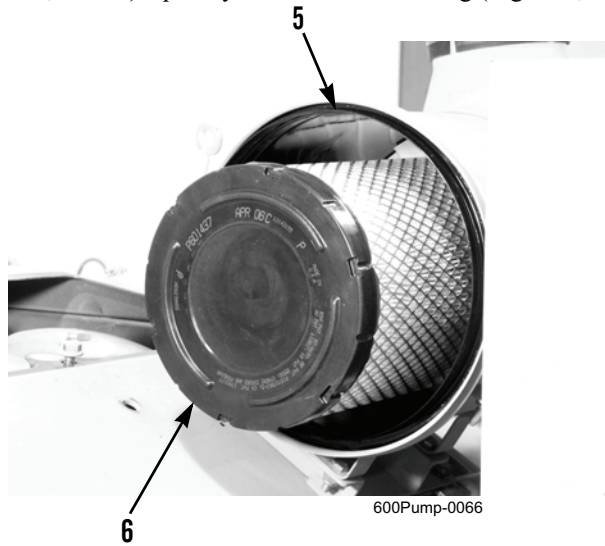

Figure 4. Primary Element.
11. Install primary element (Figure 4, Item 6) squarely in air cleaner housing (Figure 4, Item 5) until firmly seated.